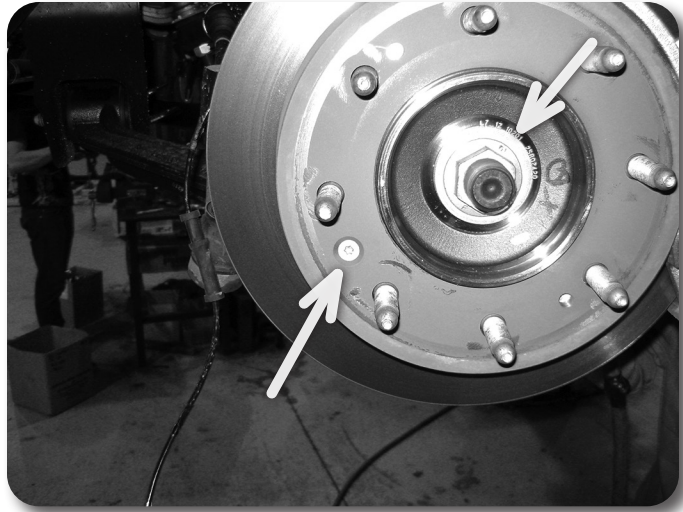

Figure 9
17. Remove the rotor retaining bolt using a T30 torx bit **Figure 9**. Remove the brake rotor and set aside. Save retaining bolt.
18. Remove the CV axle nut and washer **Figure 9**. Save hardware.